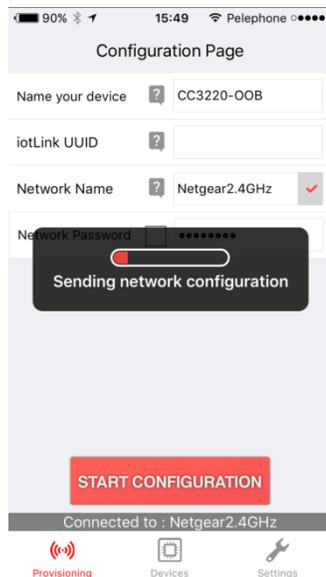
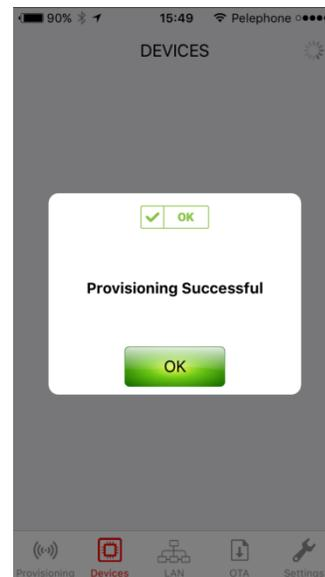
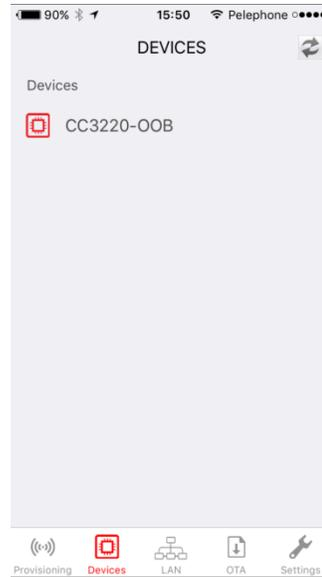

Figure 13. Wi-Fi Starter Provisioning Process (1/3)
Figure 14. Wi-Fi Starter Provisioning Process (2/3)
Figure 15. Wi-Fi Starter Provisioning Process (3/3)
3. Successful provisioning is indicated on the mobile application as shown in Figure 13, Figure 14, and Figure 15. On the LaunchPad, the red Led (D7) turns solid on.